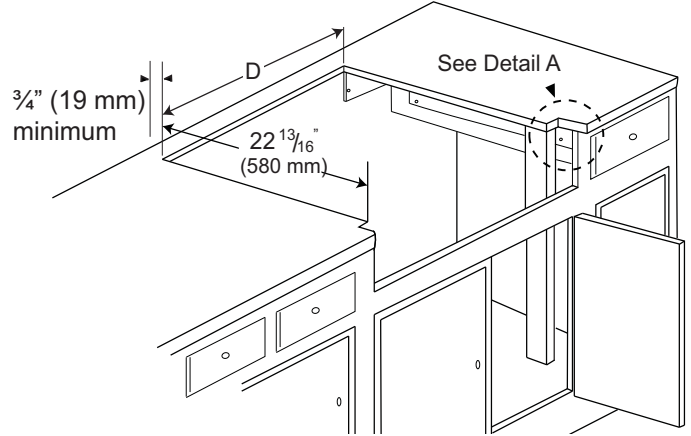

Figure 4: Island Installation (No Countertop Backsplash)
3. The rangetop is designed to hang from the countertop by its side flanges. The countertop however, must be strong enough to support this rangetop. It may be necessary to add a supporting cleat along each side (see *Figure 2*) or a 2 x 4 corner brace (see *Figure 3* and *Figure 4* and Detail A). Another alternative would be to construct a deck to set the rangetop on.
4. The rangetop can be installed in various positions with the front either flush or projecting, depending on the countertop's depth. (See *Figure 5*, side view of rangetop; see *Figure 3*, *Figure 4*, *Figure 6* and *Figure 7* for alternate mounting positions.)
- Island installation, see *Figure 4*.
- If a solid side cabinet wall exists on one or both sides, you will need to notch the front corner of the cabinet to match the countertop notch and to allow clearance for the rangetop front (see Detail A, *Figure 3* and *Figure 4*).